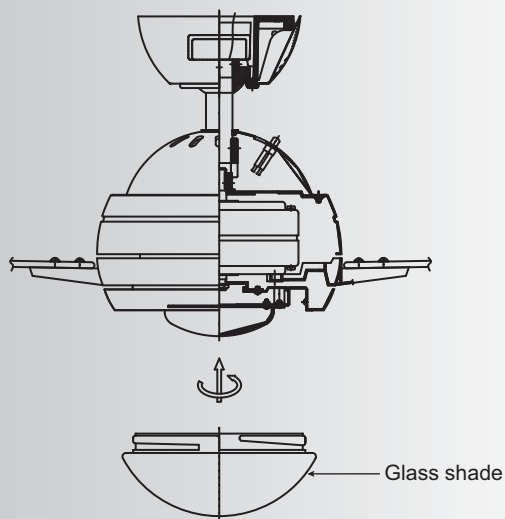

Fig. 20
Step 4. Raise the glass shade against the light kit and turn clockwise until snug, **DO NOT OVERTIGHTEN.** (Fig. 20)